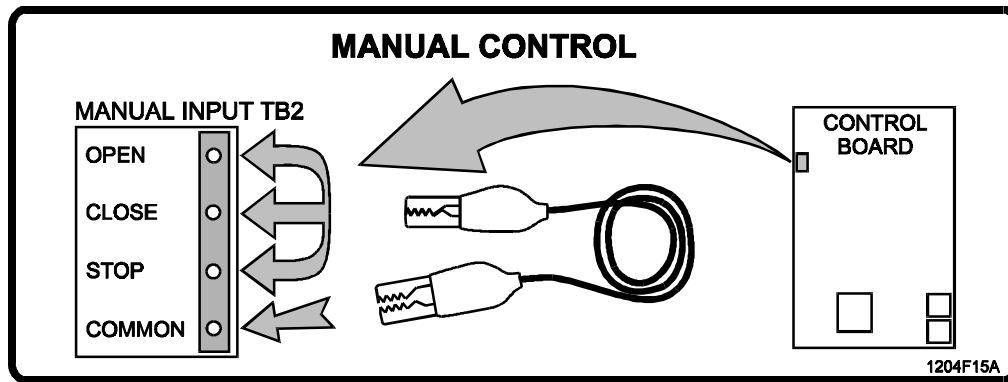

Figure 5. Manual Controls, Location and Use.
2. On Manual Input Terminal TB2, connect the STOP terminal to the COMMON terminal (see Figure 5).
Use the manual controls on Manual Input Terminal TB2 (OPEN, CLOSE, and STOP, as shown in Figure 5), to move the gate for arm installation and making the limit cam adjustments.